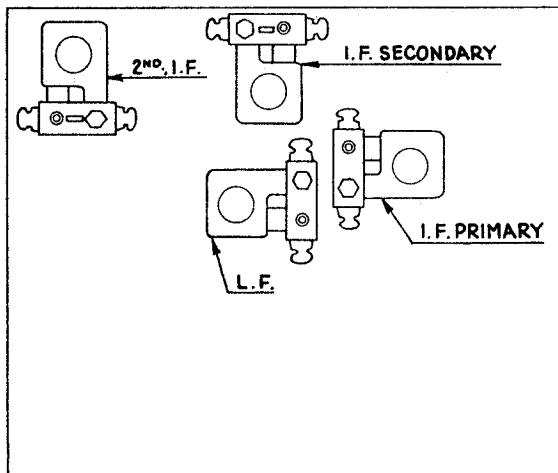

FIG. 2. MODELS 6, 9 AND 12.—(CODE 122) I. F. 260 K. C.
Next adjust the secondary and primary I. F. condensers. These are the right-hand ones on Fig. 2.
Low Frequency Adjustment. Now tune the Receiver and signal generator to 700 K. C., and adjust the condenser (LF) on Fig. 2. During this operation the tuning condenser must be shifted and the compensator must be adjusted to bring in the maximum signal.